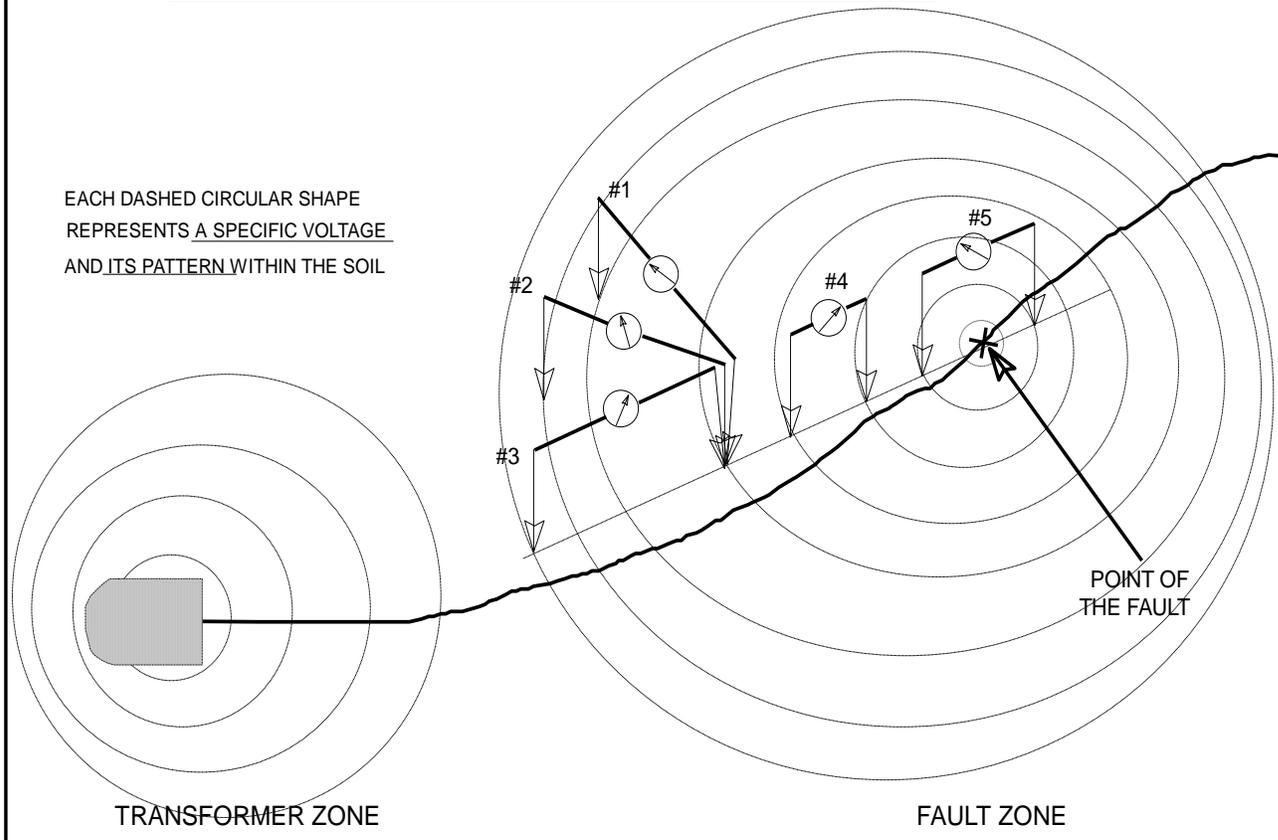
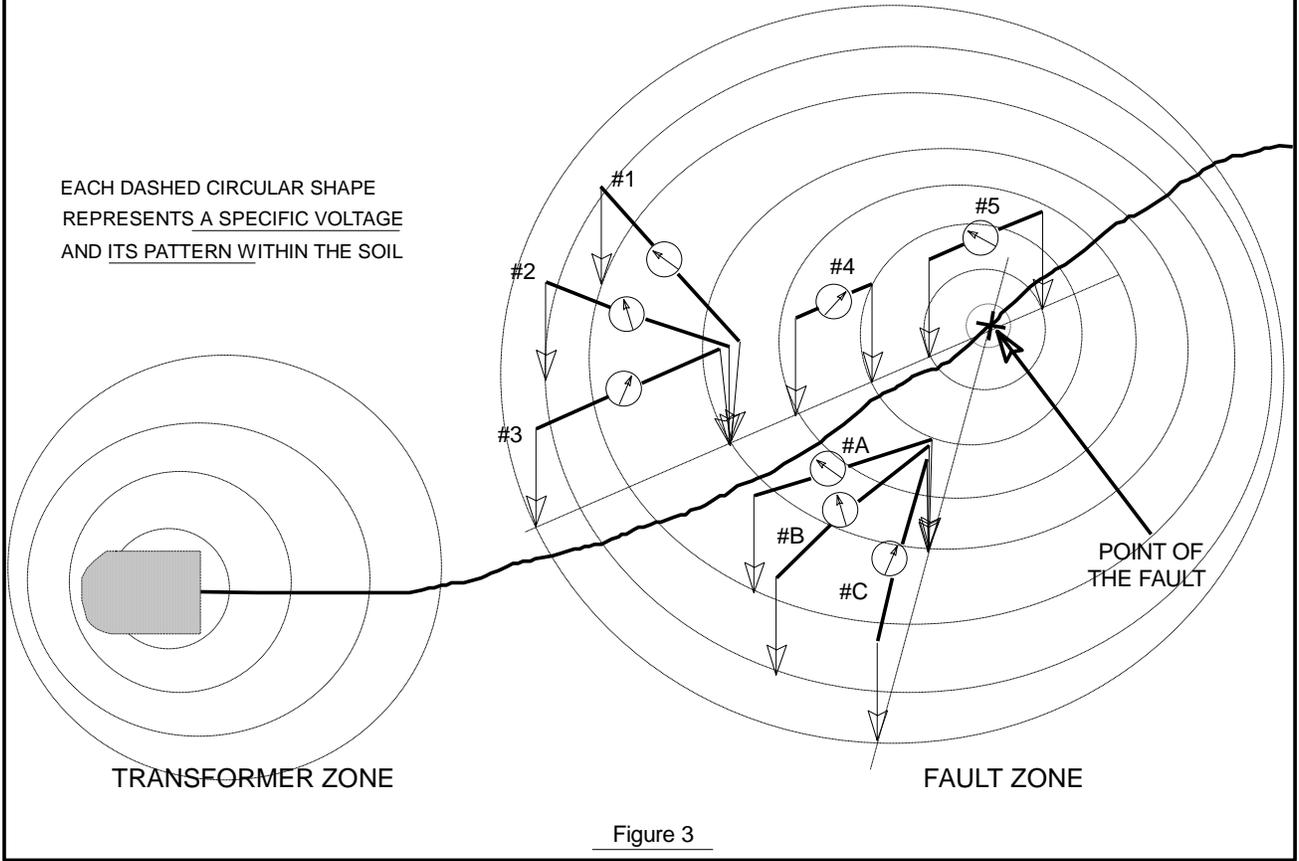

Figure 2
Figure 3
1.3 **TAKING READINGS** – Let's look at Figure 2 for the basic method of taking readings with the instrument. Here the readings are represented as circular shapes, each being a specific voltage's pattern that is generated at the surface of the ground. You also see there is an area that is labeled the transformer zone on the left and the fault zone to the right. Of course, you cannot know immediately where the fault zone is, but you do know where the source transformer is and where the customer's meter base or street light is. With this in mind the following rule was developed (by user experience in the field) as a time saving approach to finding the point of the fault.
Let's assume that the first location of your probes is represented by position #1 as shown in Figure 2. Assuming that there is sufficient A.C. voltage signal from the fault to cause the instrument's meter to give an up-scale indication, you can make a mental note of how high the reading is at that position. Leave one of the probes in place and move the other one about 45 degrees **C**ounter **C**lock **W**ise (CCW; ie, ☺) around from its original position. This brings you into position #2 and you can see a higher reading than you had in position #1.
Successive readings, moving the one probe CCW (☺) will bring you to the point of "highest" relative reading. This "highest" reading position establishes the 'general direction' of the fault. This is the path indicated by the dashed line that is drawn between the probe tip positions on the ground. Next, you will have to determine which way you should move along the dashed line shown in Figure 2. Move along the line in either direction you choose. If the reading you get after moving is higher than the previous then continue to move along the line in that direction. If the reading is lower than the first then go the other direction along the line and follow that procedure until you approach the point of the fault.
**1.4 – THE ZERO READING POINT** – As you move closer to the fault, you will have to turn the **SCALE ADJUST** knob counterclockwise (CCW; ☺) in order to keep the indicating needle of the panel meter from staying pegged solidly at the right side of the scale. Again, what you will observe is a pattern of increasing readings as you move toward the fault. Then as you pass one probe just beyond the point where the fault actually is you will notice a decline in the relative reading. Moving the probes in football chain fashion in the same direction will again result in a lower relative reading. If you go too far the readings will rise sharply at first; but, as you continue moving in that direction the readings will become lower and lower. However, you **can find** a point shown as position #5 in Figure 2 where the reading is essentially **ZERO**. At this point you will be standing directly above the fault. Why does a **ZERO** reading indicate the point of the fault? Realizing that the voltage patterns in the soil are in the shape of concentric circles around the point of the fault, note the diagram of dashed lines in Figure 2. Thus, when you have both probes on the same "voltage pattern circle" there is no difference for the instrument to read, hence it will indicate **ZERO**. ***It is this ZERO reading position that you are looking for.***
Now let's look at Figure 3. You will notice that it is essentially the same as Figure 2 but another set of readings is shown. Here you see that the 'general direction' indicated by position #C establishes a second line of direction and this second line intersects the one that was established in Figure 2. It is at this point of intersection that you would *expect to find the fault*. This is referred to as the triangulation technique for locating the point of the fault. You probably see already how to achieve this but let's run through it briefly;